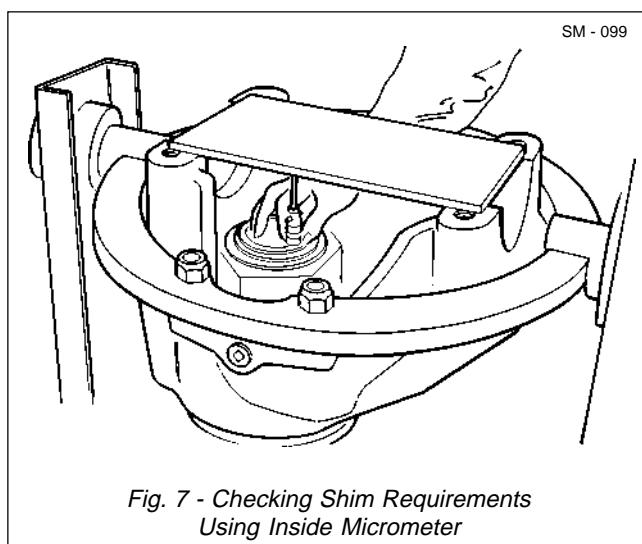

Fig. 7 - Checking Shim Requirements Using Inside Micrometer
- a. Install a shim pack (18) of approximately 1.5 mm (0.060 in), measure and record the actual thickness as Dimension 'X', and the loosely fitting bearing cup (17) (see previous note) in the pinion gear shaft bore of carrier housing (19).
- b. Install bearing cone (16) and bearing cone (14) on pinion gear (15). Install cup (13) into retainer (9) until it bottoms against the retainer shoulder. Install pinion gear assembly (14, 15 & 16) and retainer (9) into carrier housing (19). Secure retainer (9) with eight bolts (10) equally spaced.
- c. Rotate pinion gear (15) and tighten bolts (10) until the pinion gear cannot be rotated by hand to seat the bearing rollers firmly.
- d. Place a flat plate approximately 450 mm (18 in) long across the two bearing cap (22) mounting surfaces in carrier housing (19) as shown in Fig. 7. The plate must lie perfectly flat between the bearing cap mounting surfaces and must be clean and free of burrs.
- e. Measure the distance from the end of pinion gear (15) shaft to the plate (axle centre line). See Fig. 7. Record this distance as Dimension 'A'.
- f. Record the dimension etched on the end of pinion gear (15) as Dimension 'B'.
- g. The correct thickness of shims (18) to be used is: Dimension 'X' + Dimension 'B' - Dimension 'A'.
2. Determine shim pack (11) thickness so as to allow pinion gear (15) 0.025 - 0.08 mm (0.001 - 0.003 in) axial end play as follows:
- a. With pinion gear (15) installed as previously described in Steps 1a through 1f, rotate pinion gear (15) and tighten the eight bolts (10) evenly spaced, to 110 Nm (80 lbf ft) torque to seat the bearing rollers firmly.
- b. Remove bolts (10) and reinstall two of them 180° apart. Tighten the two bolts alternately in 30 Nm (20 lbf ft) increments to a final torque of 110 Nm (80 lbf ft).
- c. Measure the gap between retainer (9) and carrier housing (19) adjacent to the two installed bolts and record the average measurement as Dimension 'C'.
- d. The correct thickness of shim pack (11) is:
To charge both cylinders simultaneously with nitrogen, a tee piece (8), hose (1, Fig. 7), valve chuck (2, Fig. 7) and valve extension (3, Fig. 7) can be added to the charging assembly (See Fig. 7). Assembly of this kit is described under 'Special Tools'.
4. Attach the charging assembly kit to nitrogen bottle (11) by turning down on gland nut (8, Fig. 7).
5. Install valve chucks (12) to nitrogen charging valves (2) as follows:
a. Rotate 'T' handle of valve chucks (12) anticlockwise until they stop.